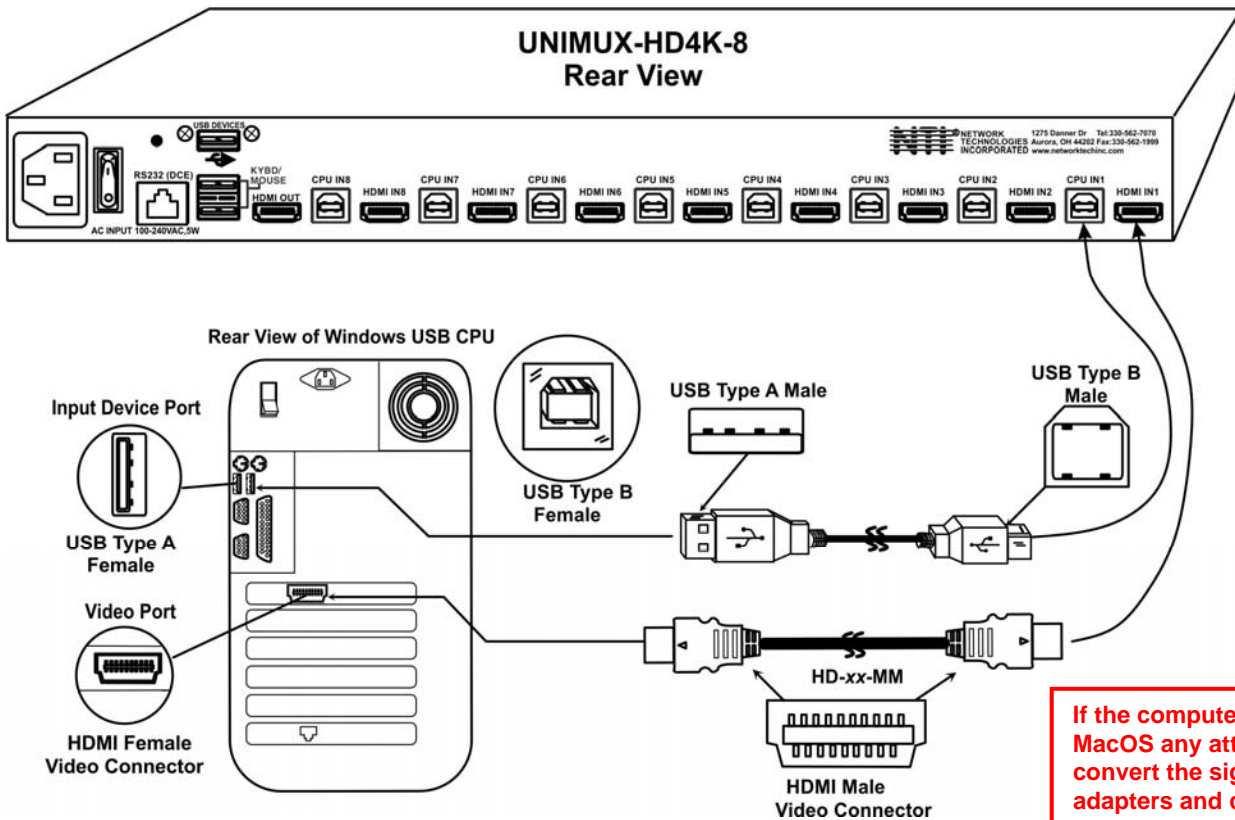

Figure 7- Connect each CPU
6. Connect each CPU to the USB switch using a HD-xx-MM video and USB Type A-B device cable – REQUIRED (not supplied). (See Figure 7 below.)